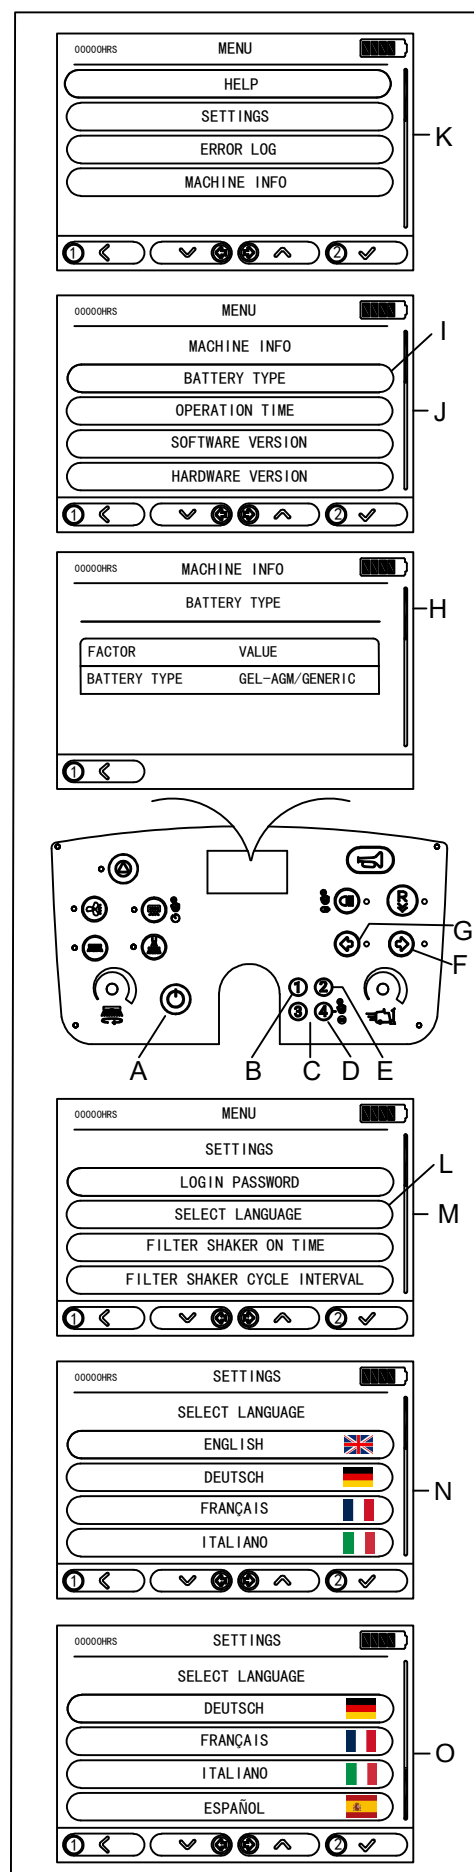

Figure6
1. Press the power button (A, Figure 6).
2. Use the 4-digit pin pad (C, Figure 6) to enter the password. The default password is 1234.
3. After successfully logging in, press and hold ④ button (D, Figure 6) for 2 seconds to enter the MENU interface (K, Figure 6).
4. In the MENU interface, press ① button (B, Figure 6) to go back to the previous menu, press indicator left button (G, Figure 6) to scroll down, press indicator right button (F, Figure 6) to scroll up, select "MACHINE INFO", then press ② button (E, Figure 6) to confirm the selection and enter the MACHINE INFO interface (J, Figure 6).
5. In the MACHINE INFO interface (J, Figure 6), select (I, Figure 6) "BATTERY TYPE" to enter the BATTERY TYPE interface (H, Figure 6).
4. In the MENU interface, press ① button (B, Figure 6) to go back to the previous menu, press indicator left button (G, Figure 6) to scroll down, press indicator right button (F, Figure 6) to scroll up, select "SETTINGS", then press ② button (E, Figure 6) to confirm the selection and enter the SETTINGS interface (M, Figure 6).
5. In the SETTINGS interface (M, Figure 6), select (L, Figure 6) "SELECT LANGUAGE" to enter the SELECT LANGUAGE interface (N, O, Figure 6). It includes ENGLISH, GERMAN, FRENCH, ITALIAN and SPANISH.
6. Press indicator left button (G, Figure 6) to scroll down, press indicator right (F, Figure 6) to scroll up. Choose language, then press ② button (E, Figure 6) to update the change.